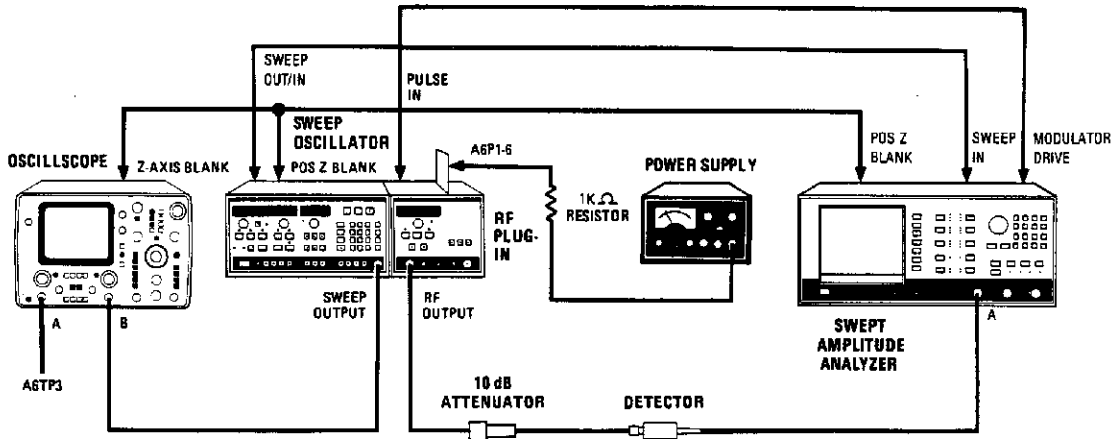

Figure 5-21. SRD Bias Adjustment Test Setup
9. Set up the equipment as shown in Figure 5-21, with a 1 kOhm resistor connected to A6P1-6 (reference to ground). Remove the Model 83592C A4 ALC board. Connect the HP 8756A Swept Amplitude Analyzer MODULATOR DRIVE output to the Model 83592C rear-panel PULSE IN connector.